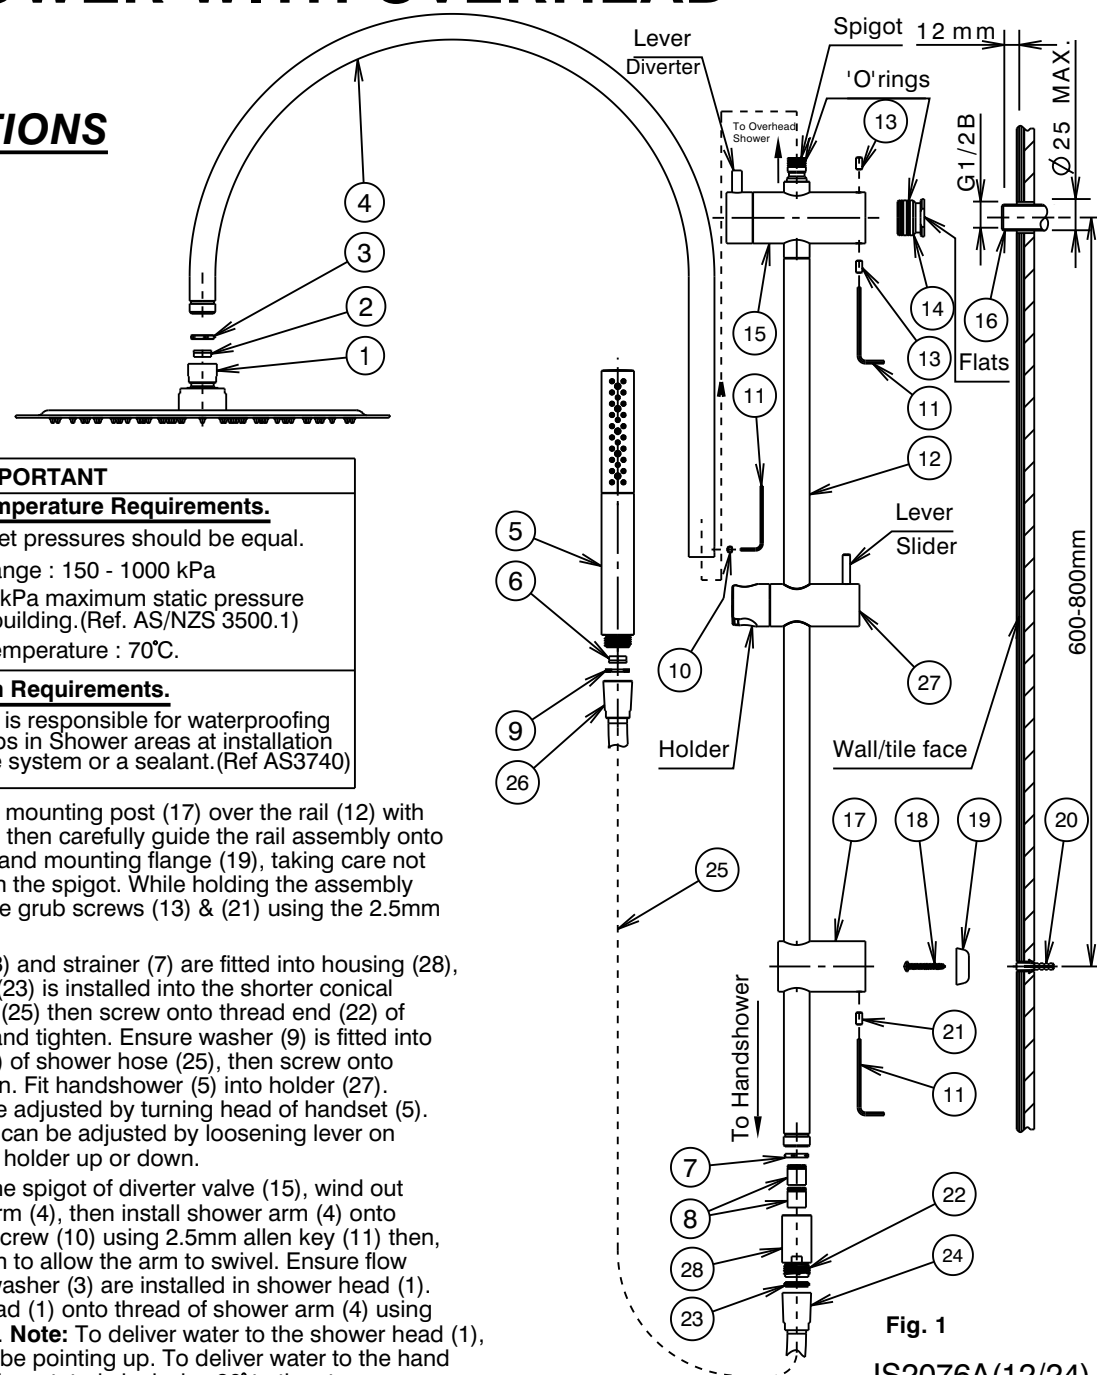

Fig. 1
- 2) Screw adaptor (14) onto threaded nipple (16) until adaptor (14) is held securely against wall/tile face. **DO NOT OVERTIGHTEN.** Apply suitable lubricant to 'O'Rings on adaptor (14).
- 3) Mark the position for the shower rail mounting post (17) at a suitable distance from the threaded nipple (16). (Fig 1.)
- ii) Insert tapered end of wall plug (20) into drilled hole and tap until flush with surface.